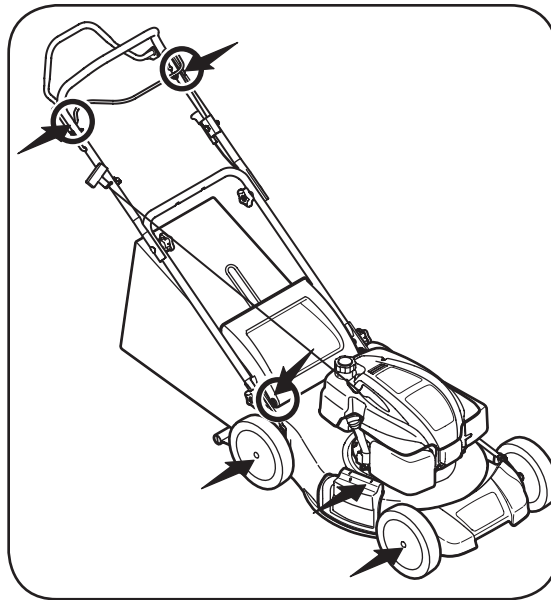

Figure 5-1
1. Lubricate the pivot points on the blade control handle at least once a season with light oil. The blade control must operate freely in both directions. See Figure 5-1.
3. Lubricate the torsion spring and pivot points periodically with light oil to prevent rust. See Figure 5-1.